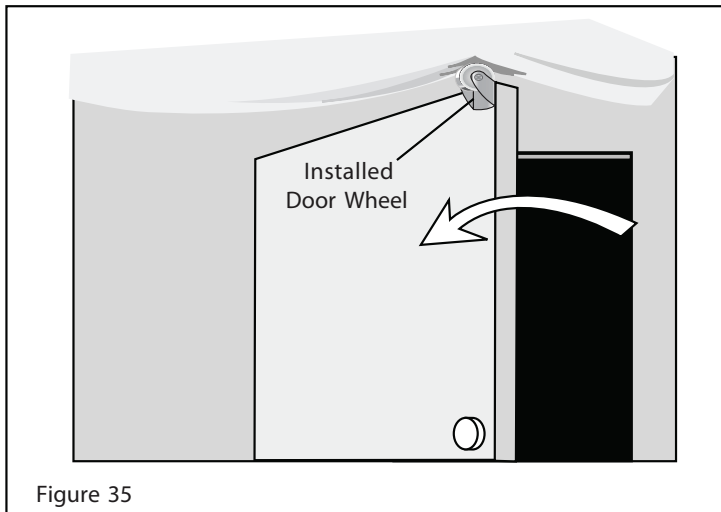

Figure 35
**CAUTION: IF YOU HAVE A DOOR ON YOUR HOME THAT SWINGS OUT UNDERNEATH THE INSTALLED SCREEN ROOM YOU MUST INSTALL THE PROVIDED DOOR WHEEL. THE WHEEL WILL PREVENT THE DOOR FROM DAMAGING THE TOP SCREEN PANEL. SEE FIGURE 35. DAMAGE TO THE SCREEN DUE TO "OUT SWINGING DOORS" ARE NOT COVERED BY THE MANUFACTURER'S WARRANTY.**